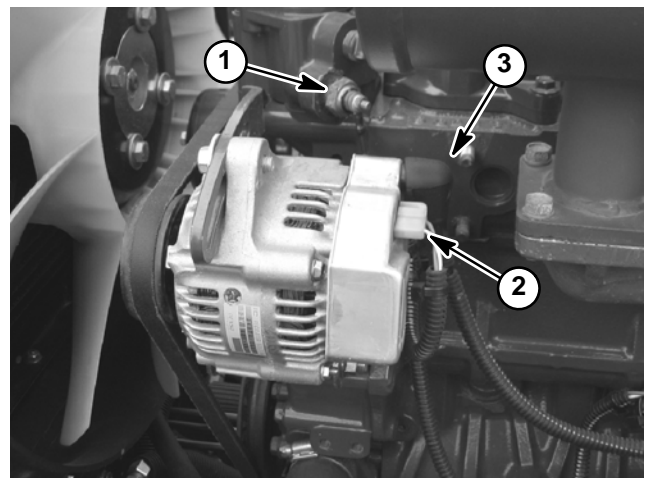

Figure 10
- B. The temperature sender (Fig. 10).
- C. The alternator (Fig. 10).